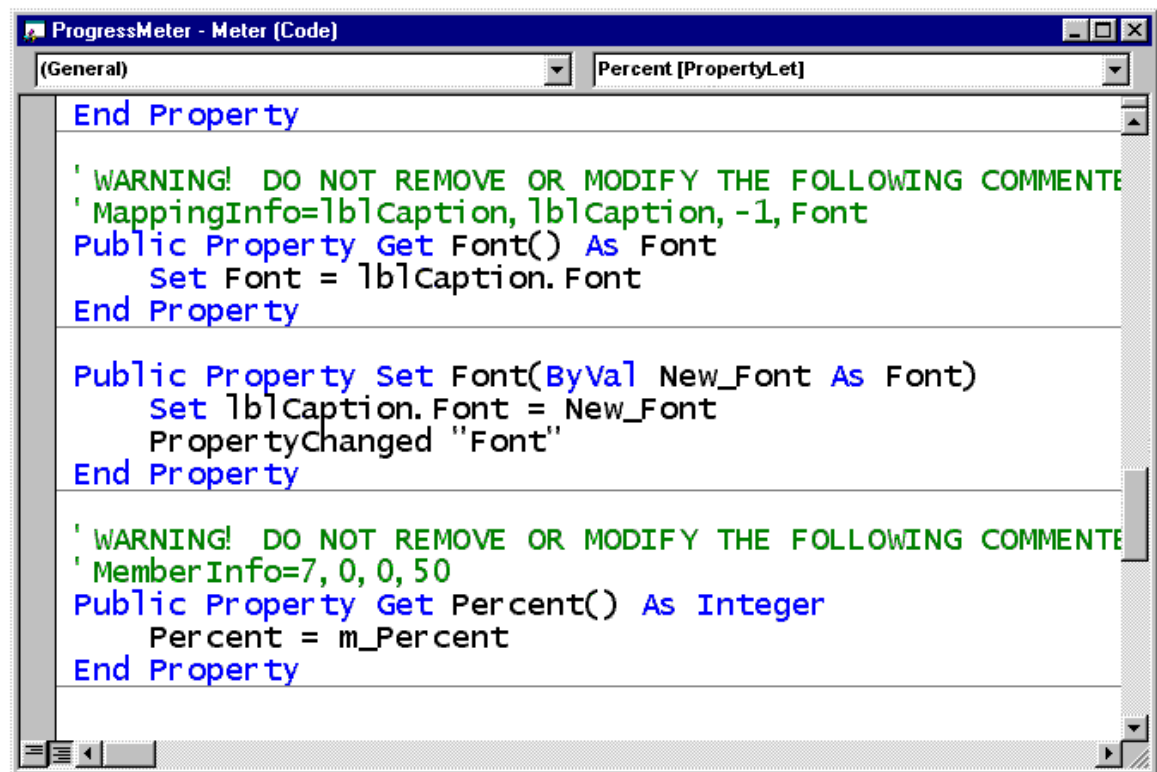

Figure 16. The Wizard adds the appropriate code for you.
8. **Check out the code changes:** The wizard will add the appropriate Property Let and Property Get procedures, and will update the code in your ReadProperties and WriteProperties events. Figure 16 shows the Property Set and Get procedures for the new Font property. Note the comments the wizard added – it uses those the next time it runs, so it knows how to map the properties to built-in properties.